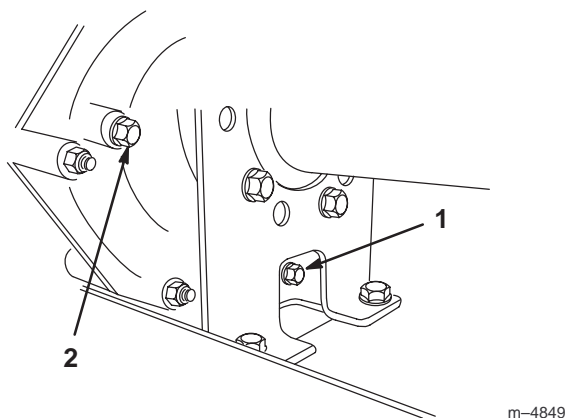
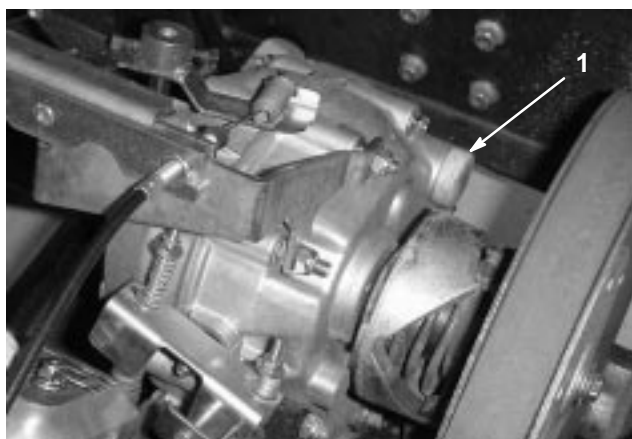

Figure 41
Figure 42
2. Remove the drain plug from the right side of the reservoir (Fig. 41) and let the fluid flow into a drain pan. Install and tighten the plug when the fluid stops draining.
3. Fill the reservoir (Fig. 42) with approximately 1-1/2 qt. (1.4 liters) of SAE 10W30 motor oil or until the oil level is at the bottom of the level indicator hole (Fig. 41).